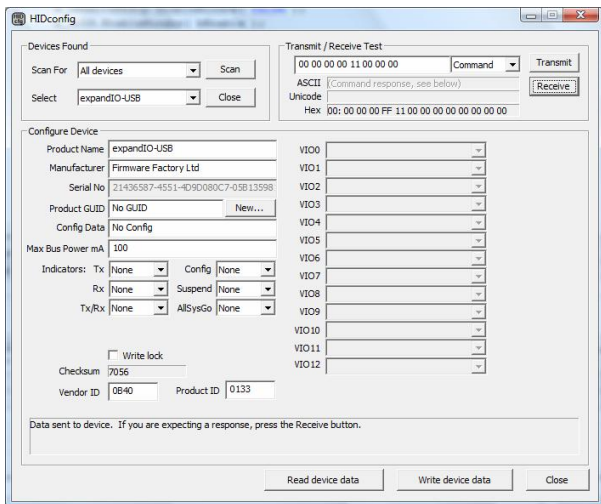

Figure 9. HIDconfig.exe application
- Using the *HIDconfig.exe* application (figure 9) in the development kit. This application makes it very easy to copy the configuration from an existing product to a new product and is suitable for in-factory use. (It cannot be used if you change the Vendor ID and / Product ID.)